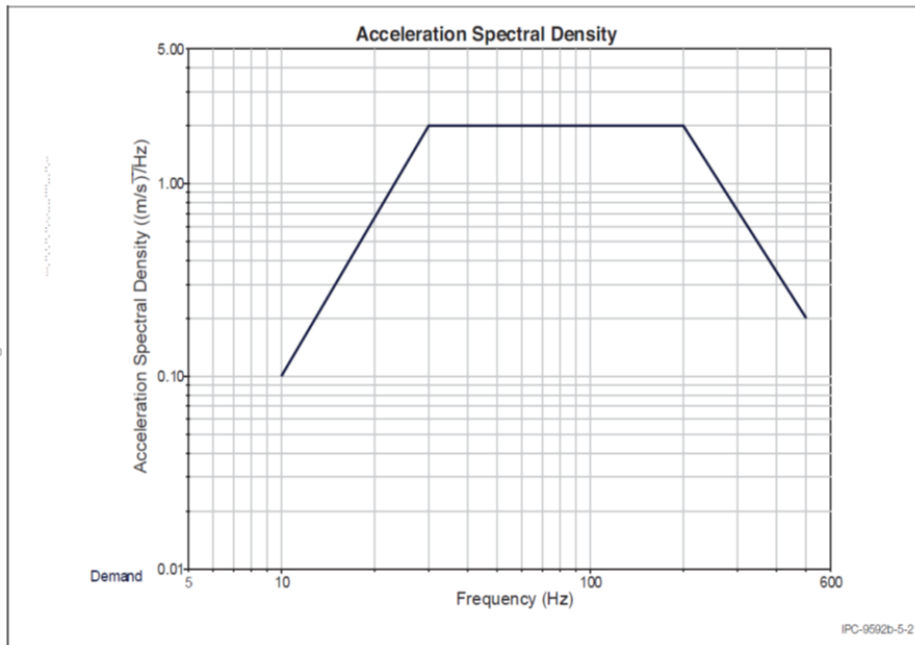

Figure 28. Class II PCDs Operating Vibration Test: Acceleration vs Frequency
**Test Method:** The devices shall be tested per the methods described in IEC 60068-2-64, Environmental testing - Part 2: Test methods - Test Fh: Vibration, broad-band random (digital control) and guidance. Each device shall be tested in three axes for a minimum of 30 minutes per axis. The device shall be powered for the duration of the test at nominal input voltage and no load. For operating vibration testing, see Figure 28.